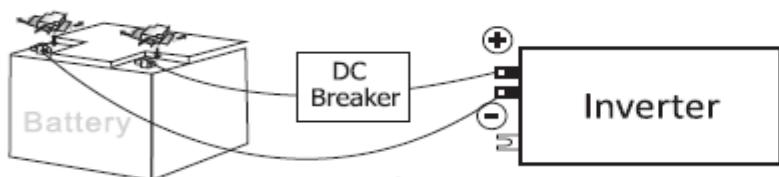

Fig.2
Step4: Install a DC Breaker in a positive line. The rating of the DC Breaker must be according to the inverter’s battery current(75Amp).Keep the DC Breaker off.(See Fig.2)
1) Single battery connection(Refer to Fig.2): When using a single battery, its voltage must be equal to the Nominal DC Voltage of the unit.(See below Table 1)